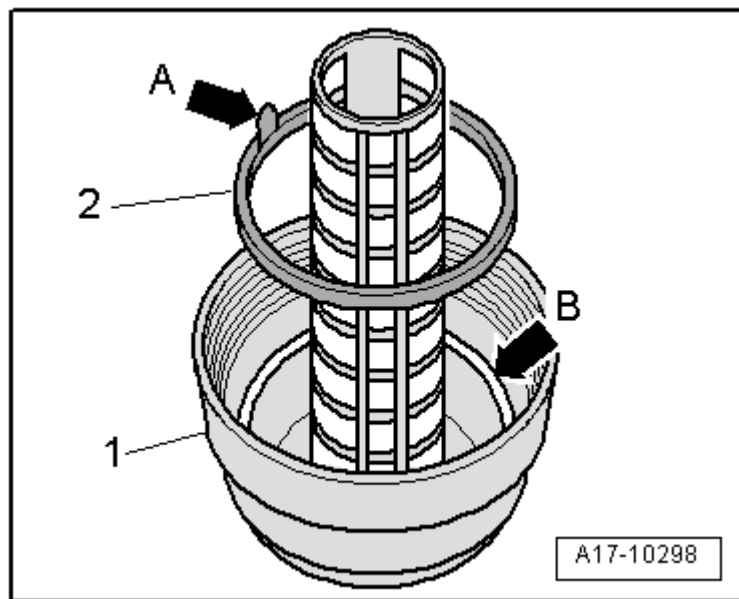

Fig. 4: Identifying Sealing Ring On Cap
- Removing and installing, refer to **Fig. 4**